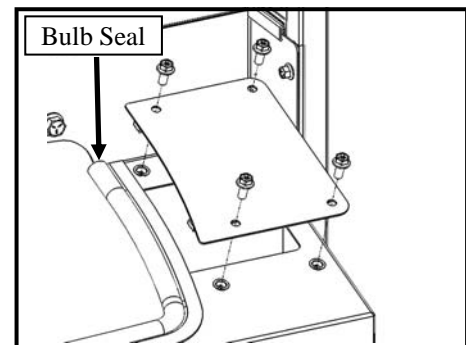

Figure 1.2: Remove Filler Cover Plate
- 1.2 Remove and discard the cover plate on the lower right cab filler by removing (4) 1/4-20 hex bolts as shown in Figure 1.2. Keep the bulb seal installed across the new opening.